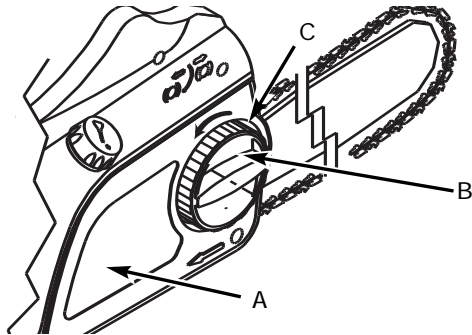

Fig. 17
2. Loosen knob (B) slightly by turning knob counter-clockwise and then turn the chain tension ring (C) counter-clockwise to relieve chain tension (Fig. 17).
3. To remove the sprocket cover (A), turn knob (B) counter-clockwise. (Fig. 17)